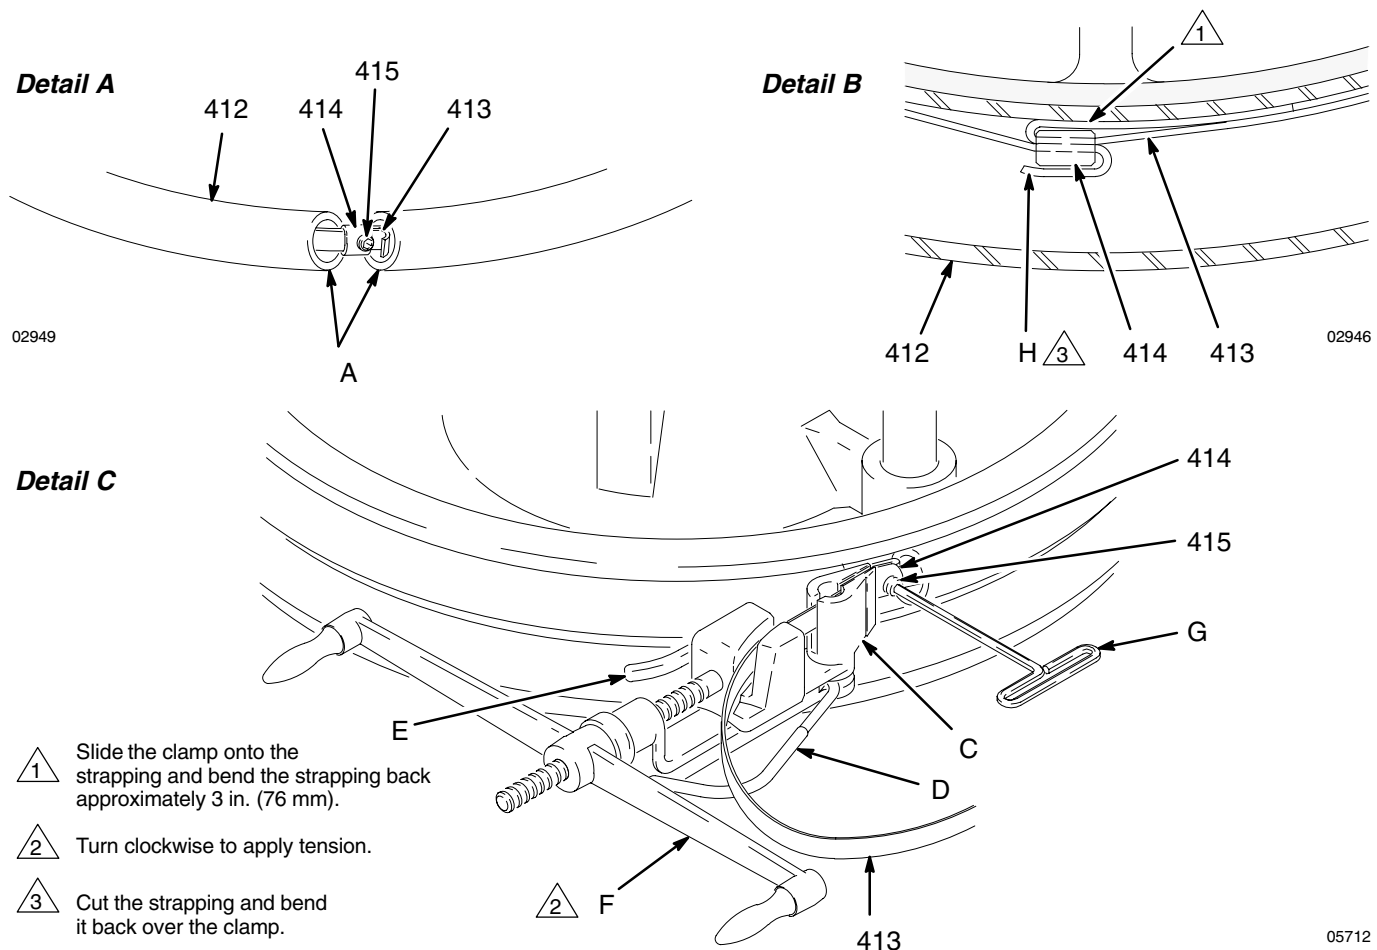

Fig. 15
Replacing Wipers (Fig. 15)
2. To replace worn or damaged wipers (412), raise the follower plate up out of the drum. Remove the drum from the base. Wipe the fluid off the follower plate. Refer to the **Drum Changing** procedure on page 25.
3. Separate the wiper joint (A) and bend back the strapping (413) covering the clamp setscrew (415). See Detail A of Fig. 15. Loosen the setscrew, pull the end of the strapping through the clamp (414) and remove the wiper.
4. Slide the strapping (413) through the new wiper (412). Slide the clamp (414) onto the new strapping and bend the strapping back approximately 3 in. (76 mm). Insert the strapping through the clamp a second time. See Detail B of Fig. 15.
5. Install the wipers on the follower plate. Position the wipers so that their joints (A) are 180° apart.
NOTE: You will need the special banding tool (C) shown in Detail C of Fig. 15 to tighten the strapping. Order Part No. 168092 Banding Tool.
6. Grip the strapping (413) with the tool (C) as shown. With your thumb on the gripper lever (E), turn the tool handle (F) clockwise to apply tension.